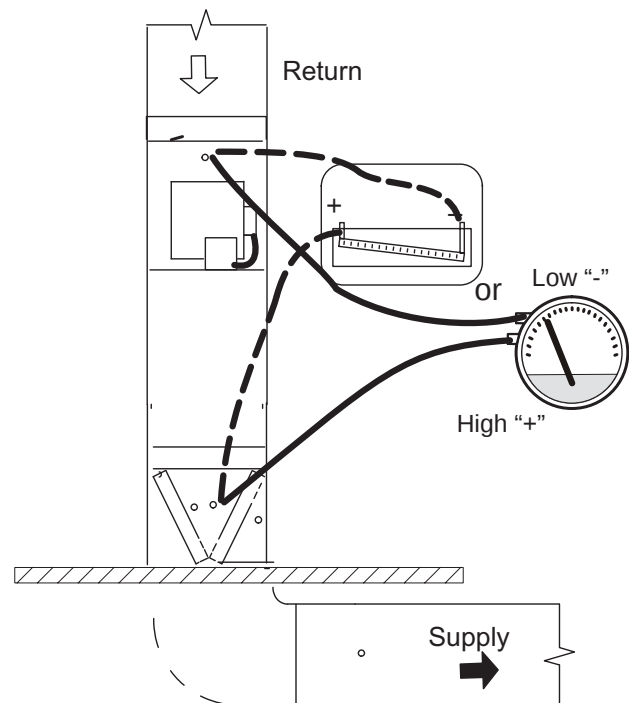

Figure 24.
- 1 - Tap locations shown in Figure 24 .